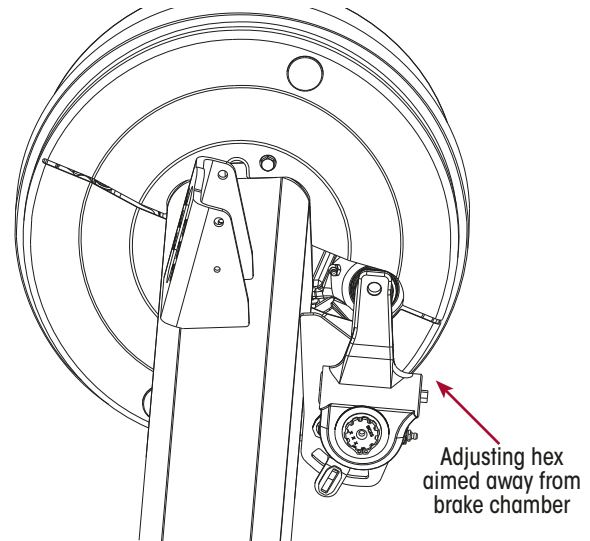

Figure 94: Slack Adjuster Adjusting Hex Position
4. Install brake adjuster onto camshaft with the arm close to the clevis and the manual adjusting hex pointed away from the brake chamber. Refer Figure 94.